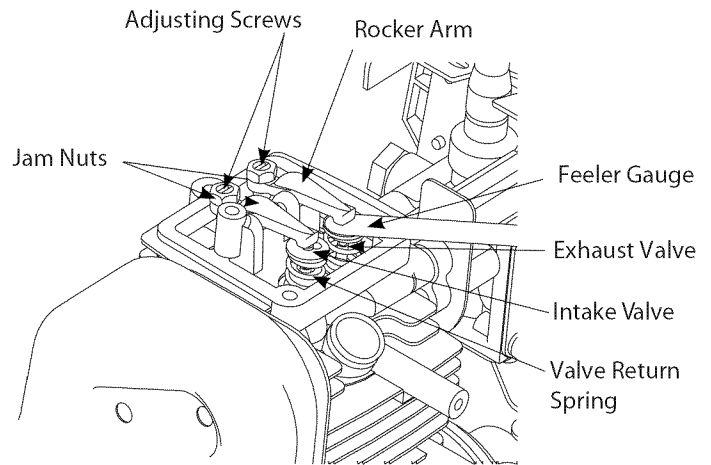

Fig. 28
9. Slide a feeler gage between the rocker arm and the valve return spring. Measure the distance between the rocker arm and valve stem (Fig. 28) Take care to only measure the free play. It is very easy to insert too thick a feeler gauge and accidentally depress the valve and valve return spring. Measure both the intake and exhaust valve distances.